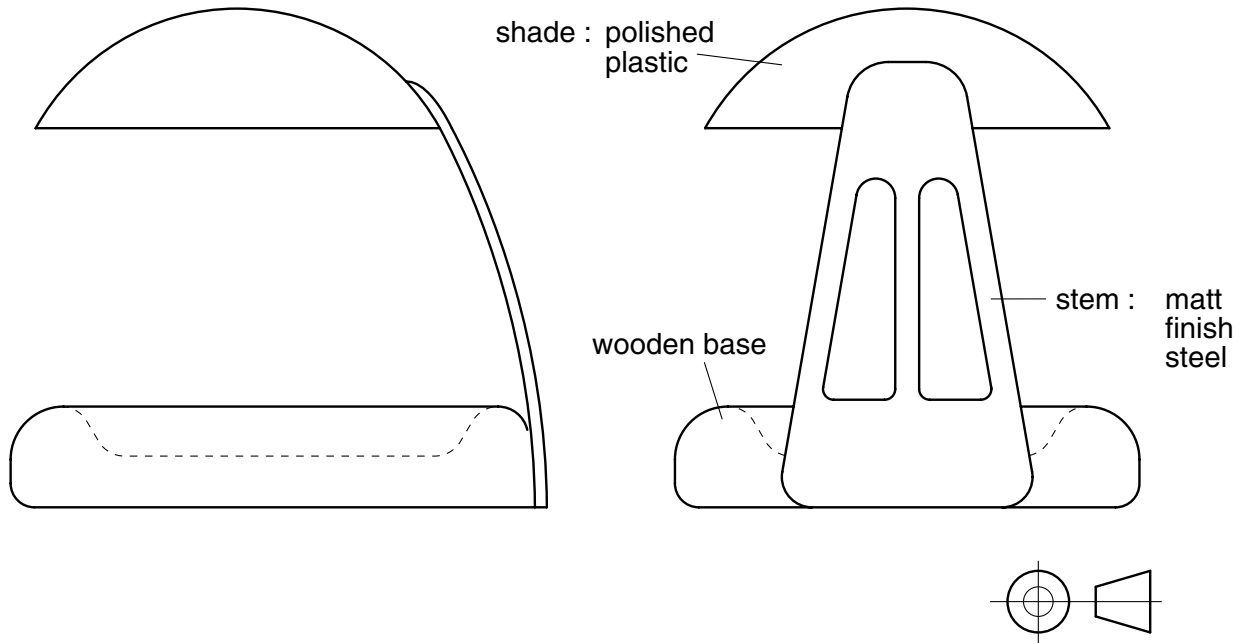

Fig. 7
- 7 Fig. 7 shows a full size orthographic drawing of a study lamp.